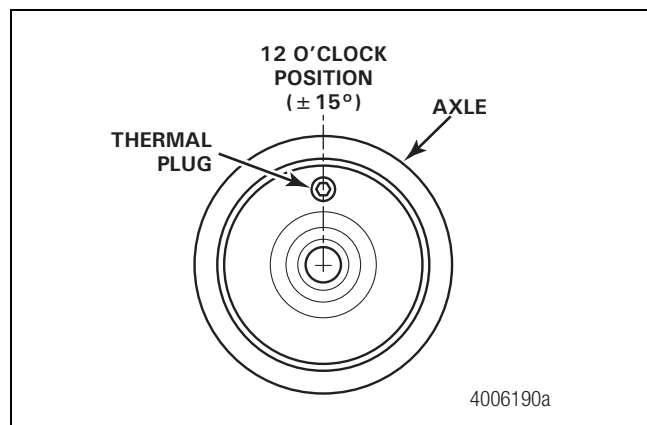

Figure 2.20
15. If you are installing an axle press plug fitted with a thermal plug for a ThermALERT system, install the axle press plug with the thermal plug positioned at 12 o'clock (± 15 degrees). Figure 2.20.
- **If the axle press plug is fitted with a thermal plug for a ThermALERT system:** Ensure that the thermal plug is located UP at the 12 o'clock (± 15 degrees) position when the axle is installed under the trailer. Figure 2.20.